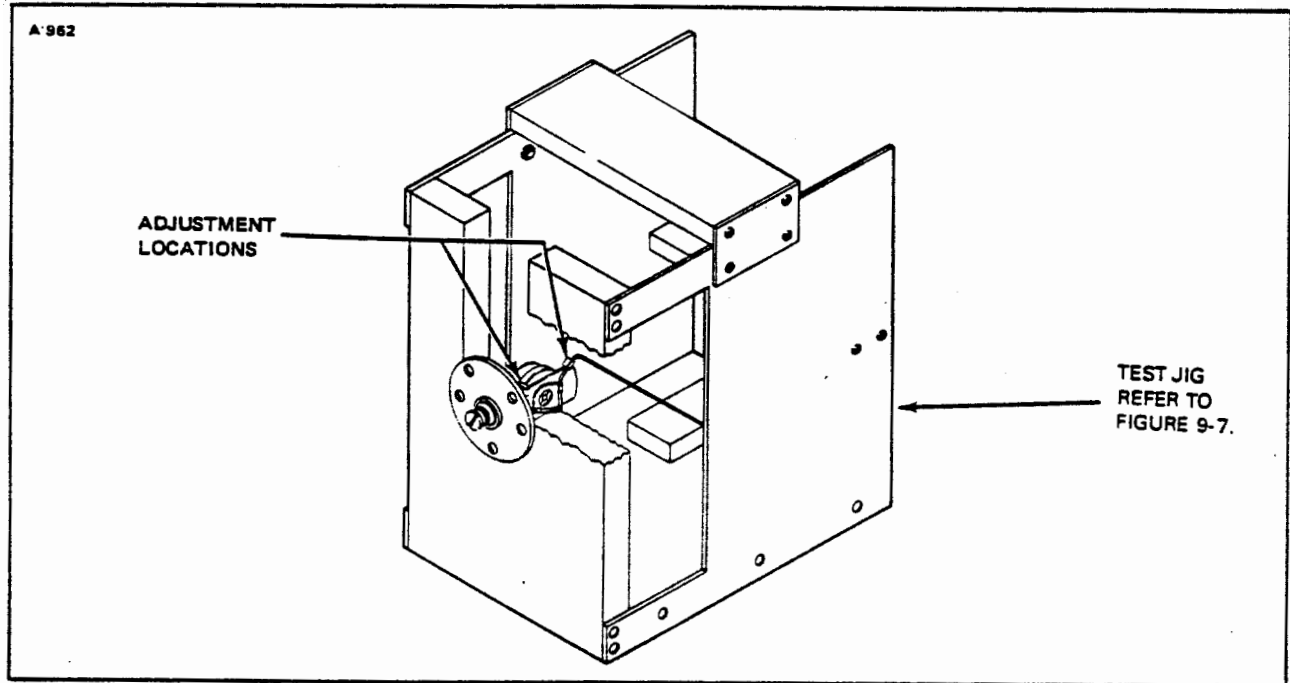

Figure 9-2. Fuel Quantity Transmitter Checking Jig
9-15. CHECK AND ADJUSTMENT OF FUEL QUANTITY TRANSMITTER UNIT. (Refer to Figure 9-2.)
2. Ascertain that with the float arm down against the mechanical stop on the transmitter, the float is just touching (The float may be to .18 of an inch above base.) the base of the jig. Should the float not be touching the base or the float arm is not against the bottom stop, adjust the arm stop of float assembly, by bending it where shown in Figure 9-2. The entire surface of the float must be horizontal with the base of the jig.